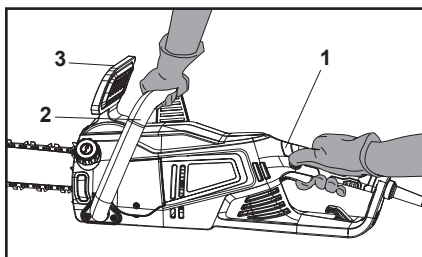

Fig. 16
1. Make sure the chain brake is disengaged. Disengage the chain brake by pulling the front safeguard (chain brake lever) (3) back towards the front handle (2).
2. Place the product on any suitable flat surface, make sure the saw chain (8) is not touching the surface or other objects.
3. Hold the product with left hand on the front handle (2) and right hand on the rear handle (1) (Fig. 16).